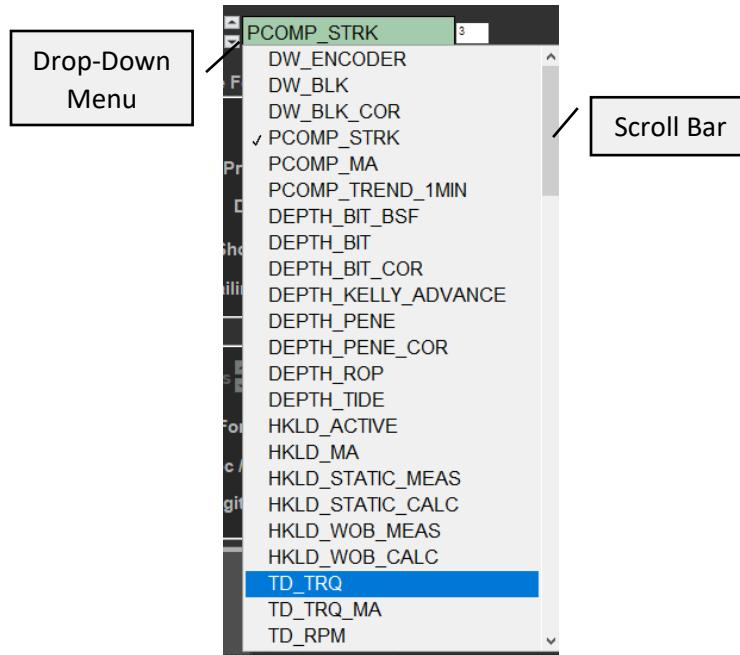

Figure 15. Plot Parameter Drop-Down Menu
To setup a waterfall plot in the Graphical Display Screen, select the desired parameter (*See Figure 7*) by using the drop-down menu in the Plot Control / Program Status functional area (*See Section C(2) - Plot Control / Program Status*). First, click on the “Edit” button located above the lane to configure, the iRIS Plot Editor Window will open (*See Figure 15 below*)
- Select one of the parameters that appear in the drop-down menu. To find a particular parameter, begin typing the name. Alternatively, click and drag the scroll bar located to the right of the menu. *See Figure 15 above*